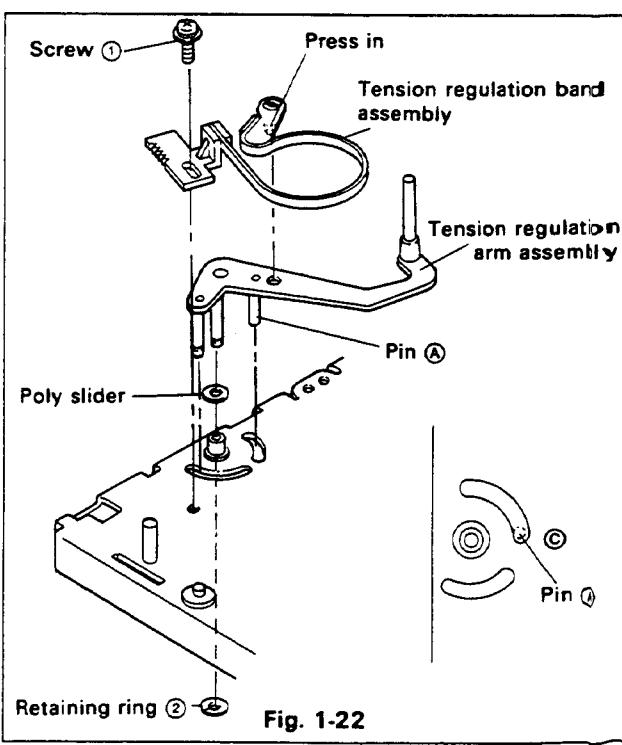

Fig. 1-22
1-22. TENSION REGULATION ARM ASSEMBLY (Figure 1-22)
1. When installing the tension regulation arm assembly into place, pin Ⓐ should fall into position Ⓛ as shown in Fig. 1-22.